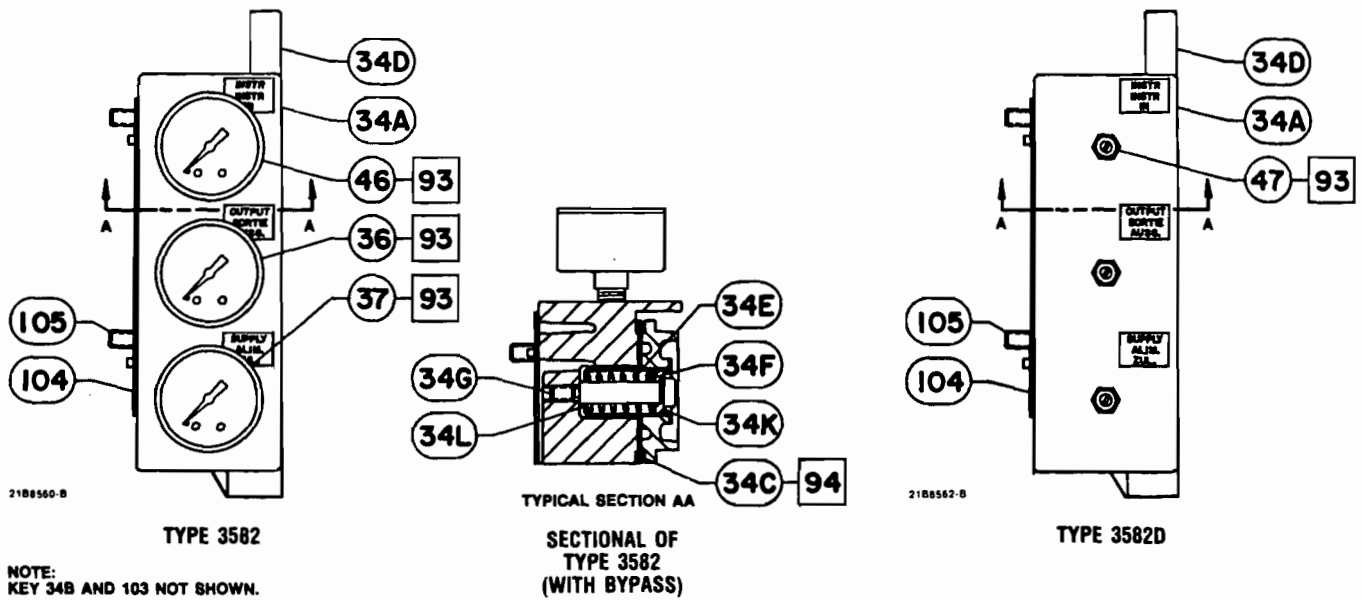

Figure 23. 3582 Series Block Assembly with Bypass
Parts 104 and 105 shown in figures 23 and 24. Part 107 shown in figure 24.
**For Units With Bypass (figure 23)**